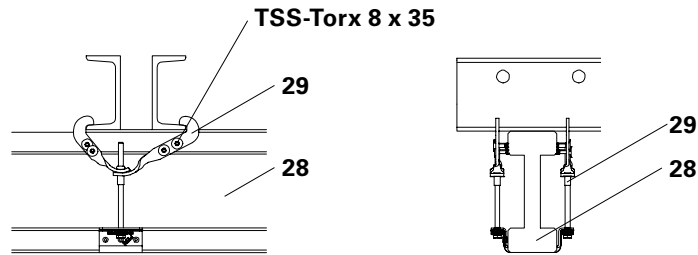
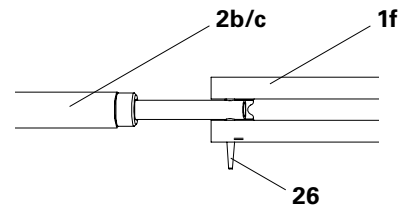

Fig. B2.01a
Fig. B2.02b
1. Fix Girder VT 20K (28) to the Steel Waler SRU U120 (1f) with the Hook Strap HBU (29).
2. Attach Hook Strap HBU (29) to the Girder VT 20 (28) by means of 8x TSS Torx 8 x 35. (Fig. B2.01a)
4. Bolt Corner Connector SRU VARIOKIT (30) onto the Steel Waler SRU U120 (1f) using 1x fitting pin \varnothing 21 mm (26).
5. Bolt Heavy-Duty Spindle SLS (2b) or (2c) onto the Steel Waler SRU U120 (1f) using 1x fitting pin \varnothing 21 mm (26). (Fig. B2.02b)